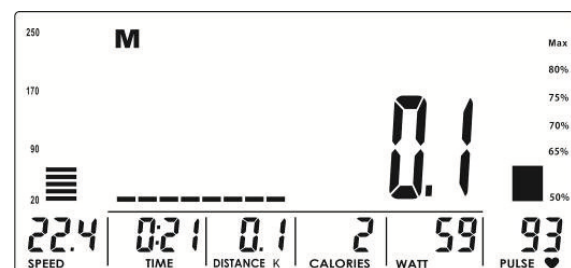

Figure 9
*Set target values will count down and the remaining values will count upwards (Fig. 9).*